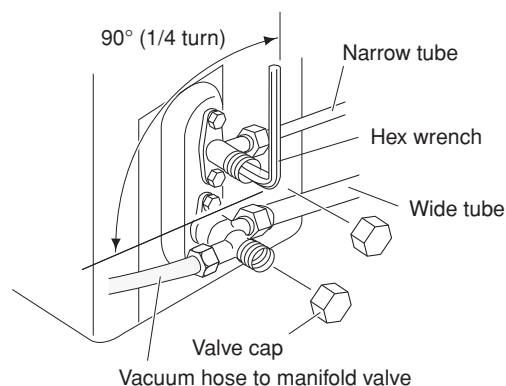

Fig. 28
- (5) With the vacuum pump still running, close the “Lo” knob of the manifold valve. Then stop the vacuum pump.
- (6) With the hex wrench, turn the valve stem on the narrow tube service valve counter-clockwise by 90 degrees (1/4 turn) for 10 seconds, and then turn the stem clockwise to close it again. (Fig. 28)